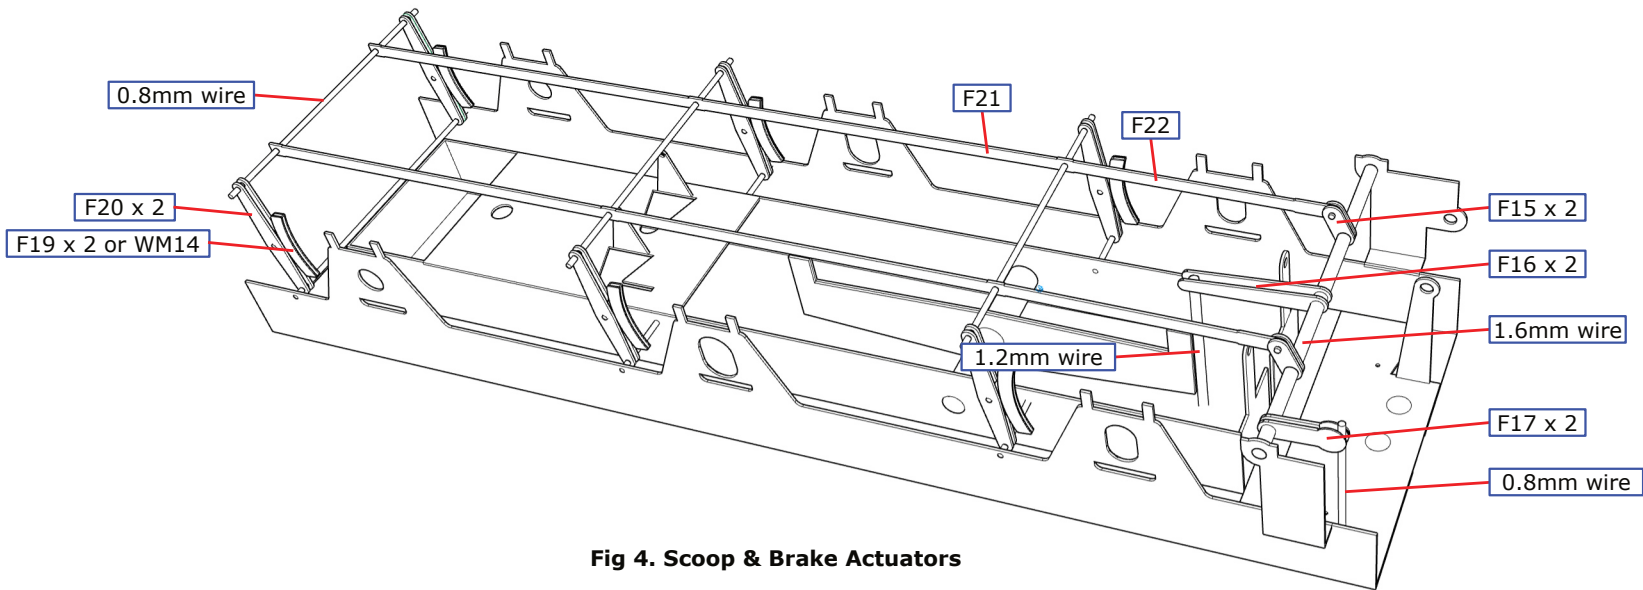

Fig 4. Scoop & Brake Actuators
**Brake Operating Mechanism.** (Fig 4). The brake shaft is made from 1.6mm wire and should be cut to just longer than the width over the frames. Thread the two sets of brake pull rod lever laminations (F15), the brake cylinder to cross shaft lever laminations (F16) and the brake standard to cross shaft lever laminations (F17) onto the shaft and solder the shaft in place. The bottom of the standard is a piece of 0.8mm wire that should be soldered into the hole in the chassis. Solder the brake standard to cross shaft levers to the wire and to the shaft. Place a length of 1.2mm wire into the hole in the chassis to represent the brake piston rod. Solder the two brake cylinder to cross shaft levers either side of the wire and then solder them to the shaft. Don't solder the pull rod levers (F15) to the cross shaft yet.